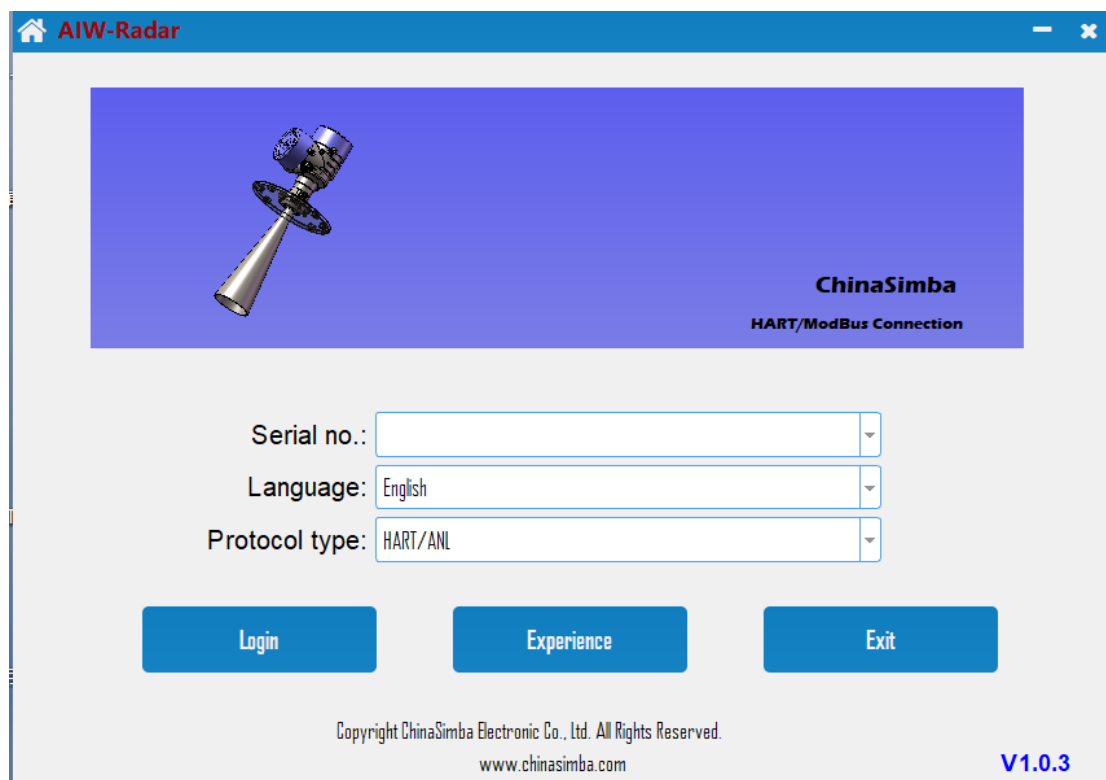

Figure 2.
2. The login interface of the program is shown in Figure 2. The interface can be used to select protocols to communicate with current devices. At the same time, the software will automatically display the serial number on the current computer, select the correct serial number and communication protocol, click the "login" button, and the software will shake hands with the device to communicate.(When using MORDERN standard hart connector, you should choose HART/STD as protocol.)